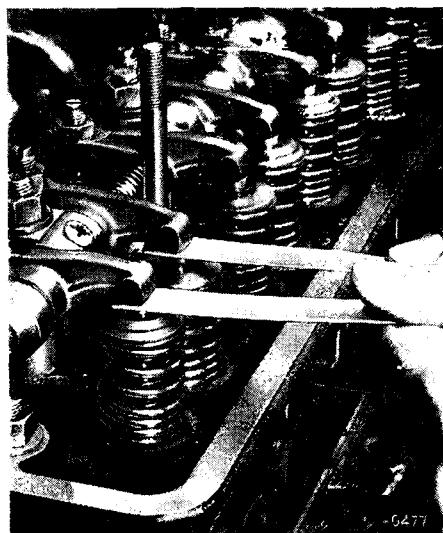

Fig. 60.
Positioning the dished face of the oil thrower (103) towards the oil seal, slide the oil thrower over the key (109), until it abuts against the crank-shaft sprocket (102). Place a new gasket (44) over the dowels on the front engine plate and, using a hooked tool as shown in Fig. 60, compress the chain when fitting the cover. Secure the cover as shown in Fig. 61.